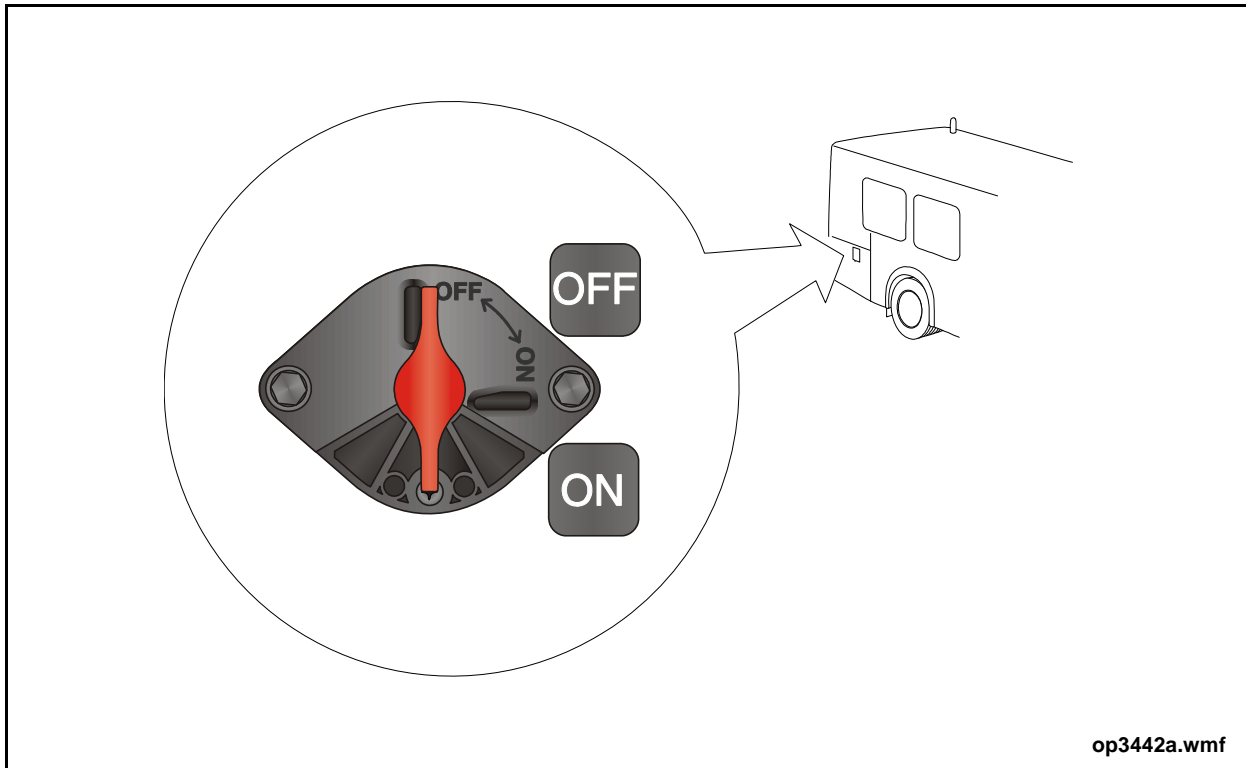

Figure 1: Battery Disconnect Switch
9. Shut off all 12/24 VDC electrical power to the vehicle by setting the Battery Disconnect switch to the OFF position. See “Figure 1: Battery Disconnect Switch” on page 14.